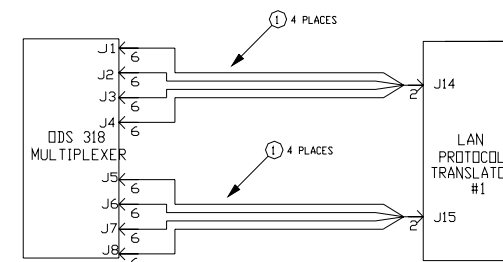

FIG. 2 SIGNAL FLOW (NOTE 6)
5. W1 THRU W4 ARE 4 CABLES TERMINATED AT ONE CONNECTOR. EACH LAN PROTOCOL TRANSLATOR REQUIRES TWO SUCH CONFIGURATIONS AS SHOWN IN FIG. 2.